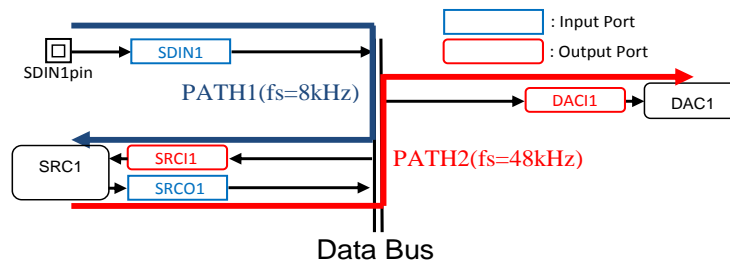

Figure 16. Data Path Example
e.g.) Data Path Example (Figure 16)
In the example of Figure 16, $2/f_s$ ($f_s=8\text{kHz}$) group delay occurs when inputting the SDIN1 data to SRC via data bus and another $2/f_s$ ($f_s=48\text{kHz}$) group delay occurs when inputting the SRC1 output data to DAC1 via data bus.
It is an example of outputting data from the DAC1 after converting fs=8kHz input data from the SDIN1 pin to fs=48kHz by SRC (Figure 16). The output port of SRC1 is in auto mode. Therefore the output port inherits the clock sync domain of SDIN1 input port.